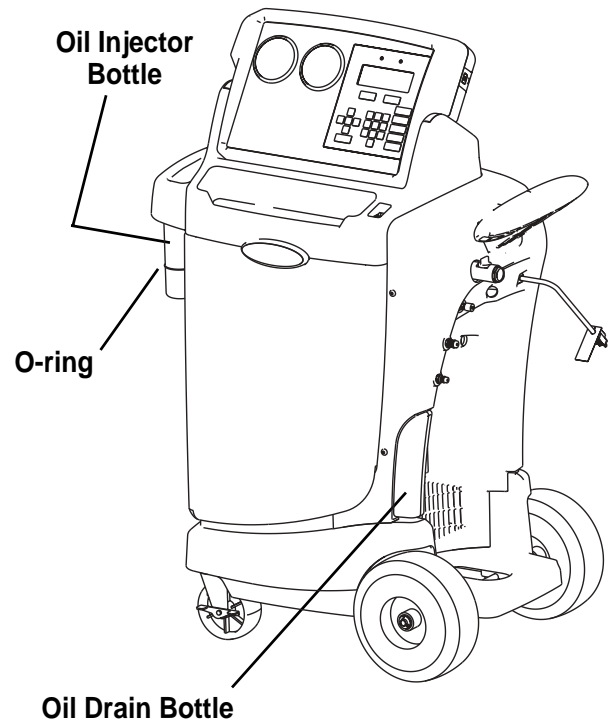

Figure 6
2. Check the oil drain bottle to determine the amount of oil that was removed. See Figure 6.